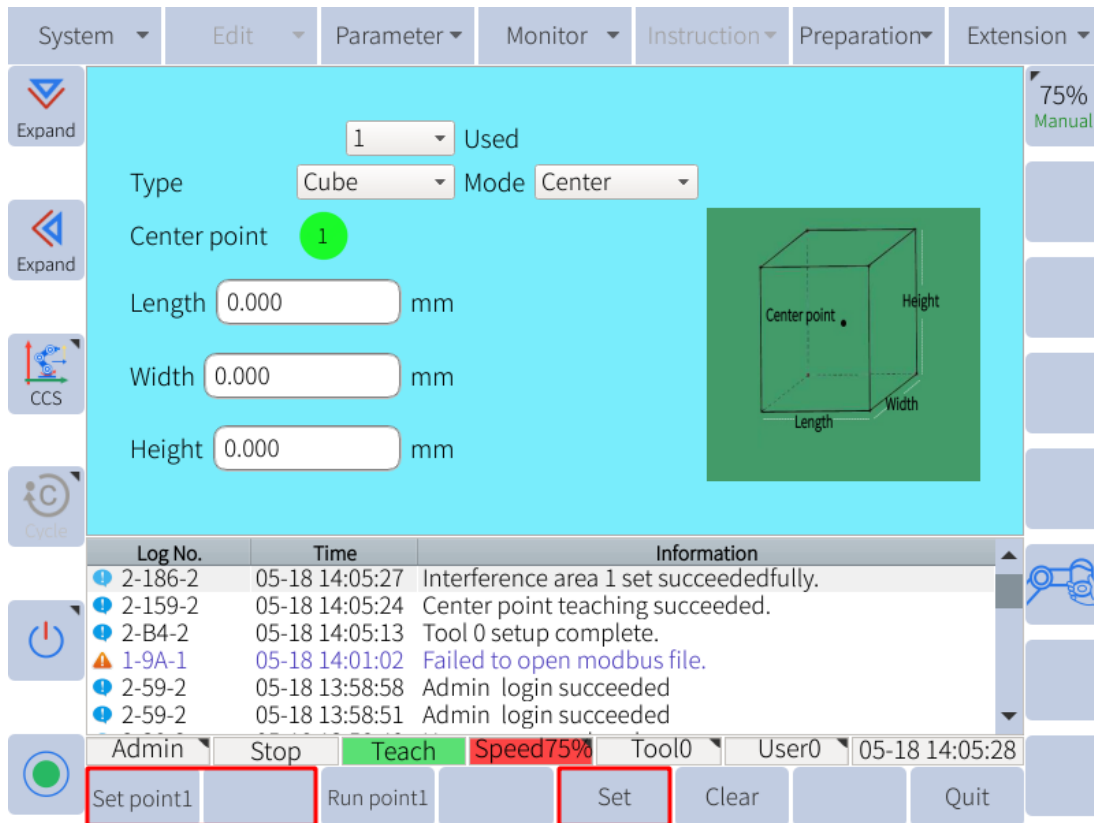

Figure 6-93 : Number Input of the Side of Cube and Teaching Center
6. Record the points by pressing "Set" in the submenu area, as shown in **Figure 6-93**.